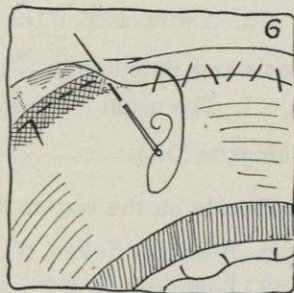

FIG. 6.
- a. In order to find the width of bias strip, read and follow all of Section 1 a (1) (page 129). Add $1\frac{1}{2}$ inches to it, for you will need to stretch the material around, and to use a little extra for finishing at the edge. Write down this last measurement and call it *width of bias for a finished edge*.
- b. In order to find the length of bias strip, read and follow Sections 1 b (1), (2) and (3) (page 129). Write down this measurement and call it *length of bias*.
- c. Do not fail to look at finished model and note what you are asked to do in Sections 1 c (1) through (4), page 129.
- d. Cut a bias *the width* that you wrote down after reading Section 10 a and *the length* that you wrote down after reading Section 10 b, following the directions in Sections 2 a (1), (2) and (3), page 130.
- g. Overcast the raw edge to the under facing of the brim, catching the frame. Be careful not to stitch through the top facing (see Figure 6).